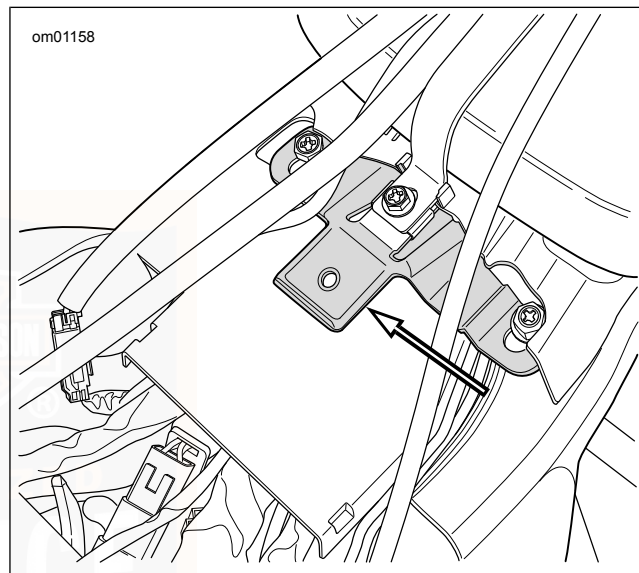

Figure 102. Seat Tongue
3. See Figure 102. While pushing seat forward, raise rear of seat until bracket clears top of body assembly. Push seat rearward slightly to free seat from tongue on rear fuel tank bracket.
4. See Figure 102. While pushing seat forward, raise rear of seat until bracket clears top of Tour-Pak. Push seat rearward slightly to free seat from tongue on rear fuel tank bracket.